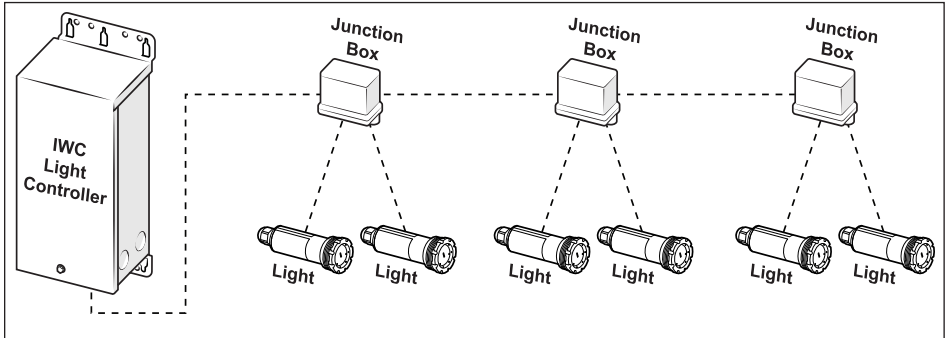

Figure 3. Avoid Daisy Chaining Junction Boxes
- Junction boxes shall not be daisy chained together. This will create a large load of power at the end of the power distribution network and will result in communication losses. Wire directly to the power source instead, (See Figure 3).